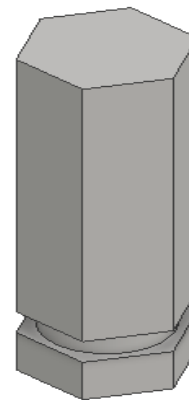

Figure 17-38 The iFeature applied to the model
20. Choose the **Finish** button; the iFeature is applied to the model, refer to Figure 17-38. You will notice that the **iFeature1:1** node is created in the **Browser Bar**.